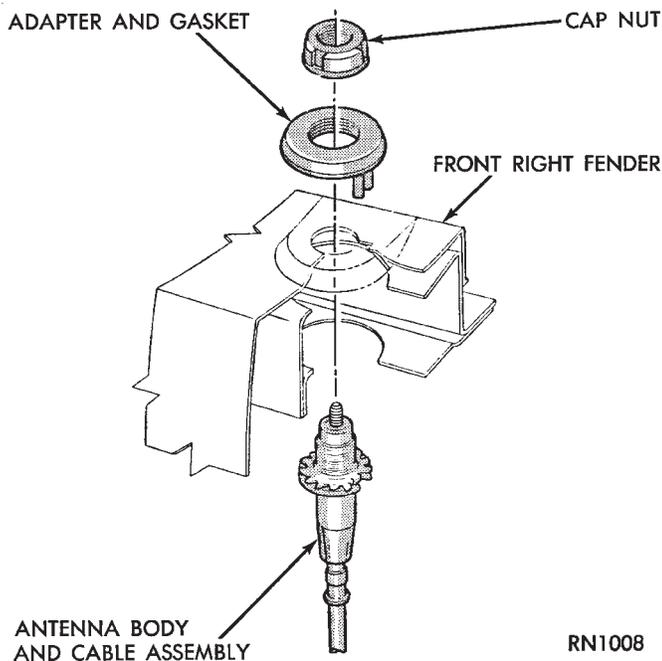

Fig. 13 Antenna Mounting
(4) Remove antenna adapter and gasket (Fig. 13).
(5) Unfasten three push pins from the rear of the plastic inner fender shield and bend the shield away to gain access to the antenna body.
(6) From under fender remove antenna lead and body assembly (Fig. 13).
- (1) Install antenna body and cable from underneath fender (Fig. 13).
- (2) Install gasket, adapter, and cap nut. Tighten cap nut to 14 N•m (125 in. lbs.) with Antenna Nut Wrench C-4816.